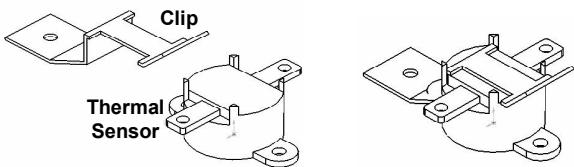

**Figure 37 -
9. The blowers are to be inserted flat through the engine cutout in the firebox floor. Slide each blower over to the sidewall location. *Figure 37*